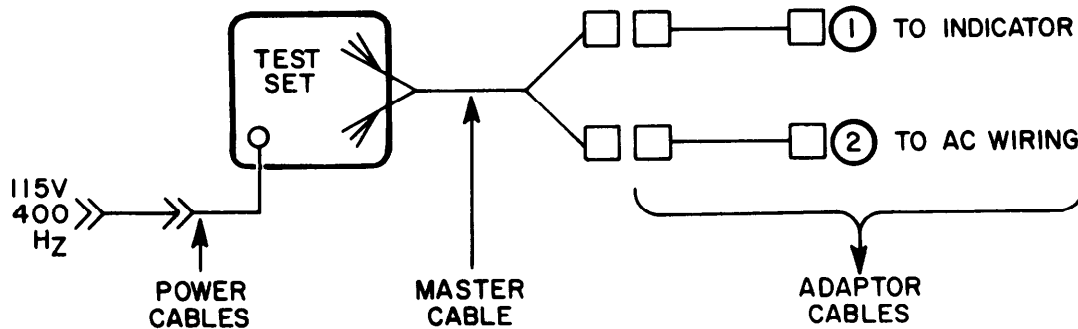

Figure 2-1. Typical cable connection block diagram
*m.* Attach the proper Adaptor Cable Assembly to the Master Cable per the following Table 2-1 and Figure 2-1.